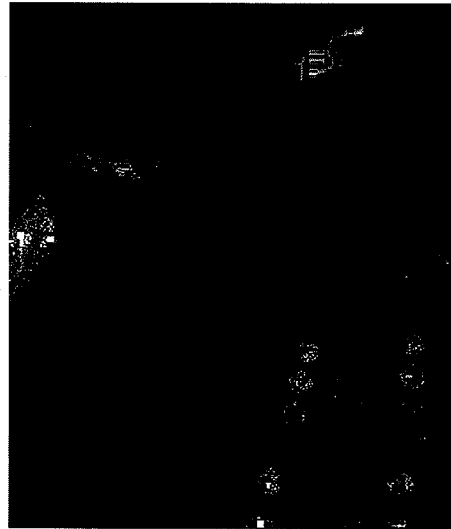

Figure 14A
2. Before charging the batteries, the battery compartment needs to be vented. To vent compartment, tip up the recovery tank until it locks in the open position (see figure 14A & 14B). To close the tank, pull up on the arm and then slowly lower the tank to the closed position.